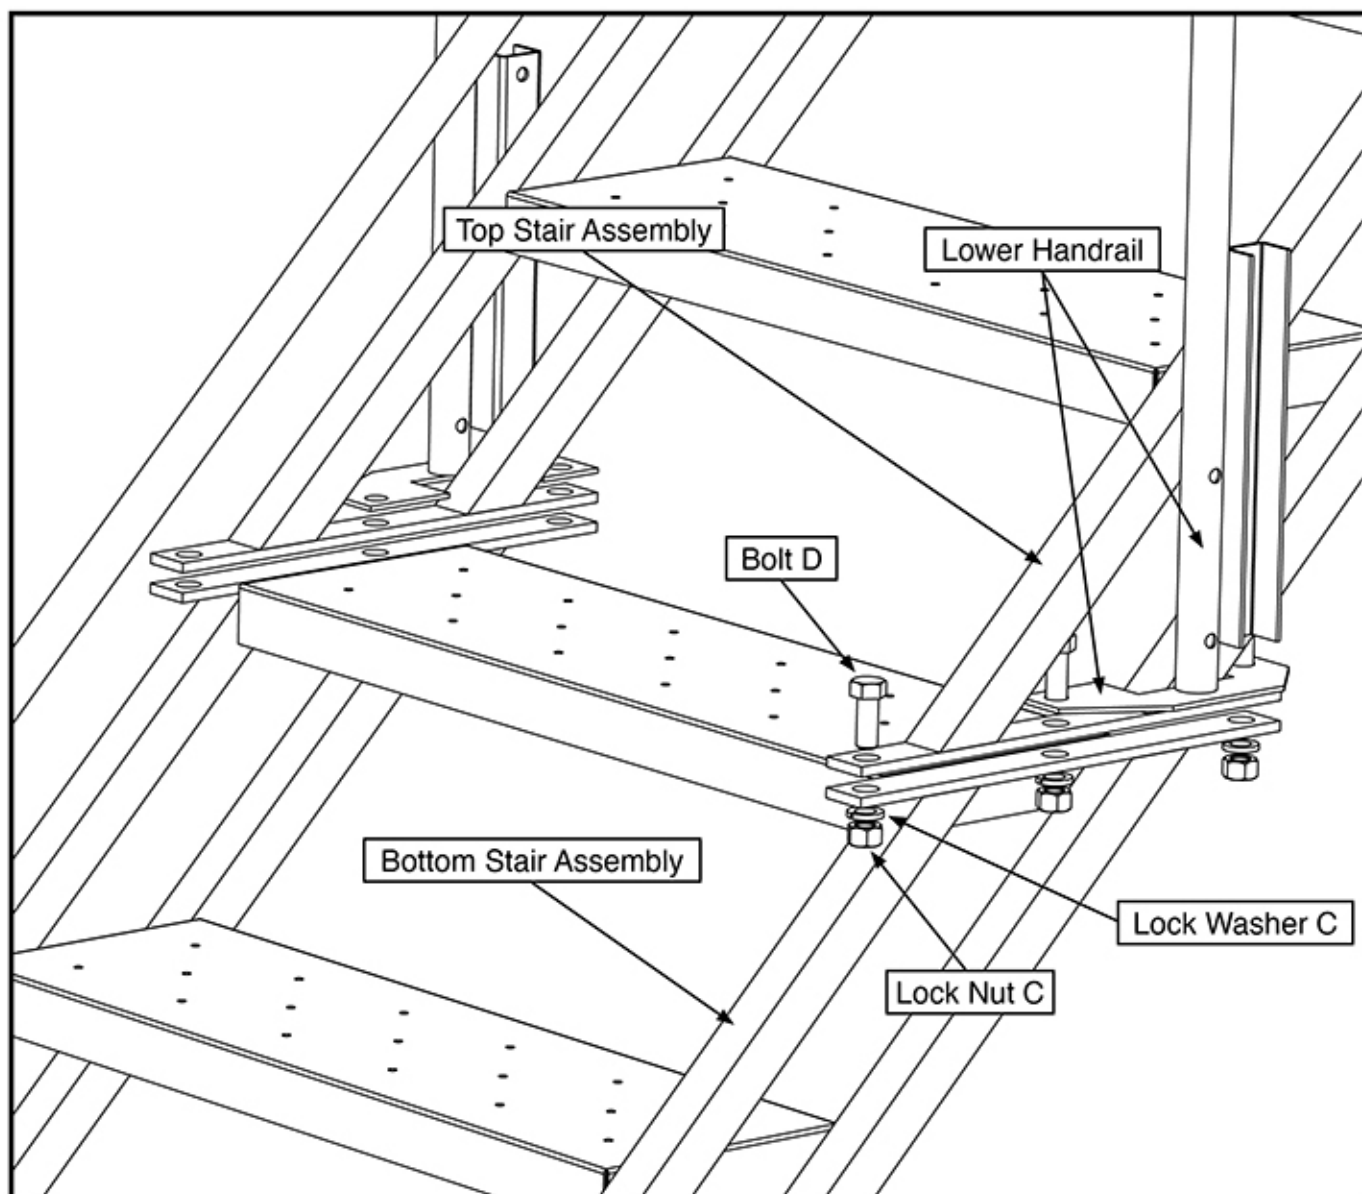

Figure 2
Step 2: Attach the **Top & Bottom Stair Assemblies** together using Bolt D, Lock Washer C, and Lock Nut C. Install (3) bolts per side. Note: the upper section of the **Lower Handrail** gets installed at the same time. **Tighten all the following hardware securely.** (Figure 2)